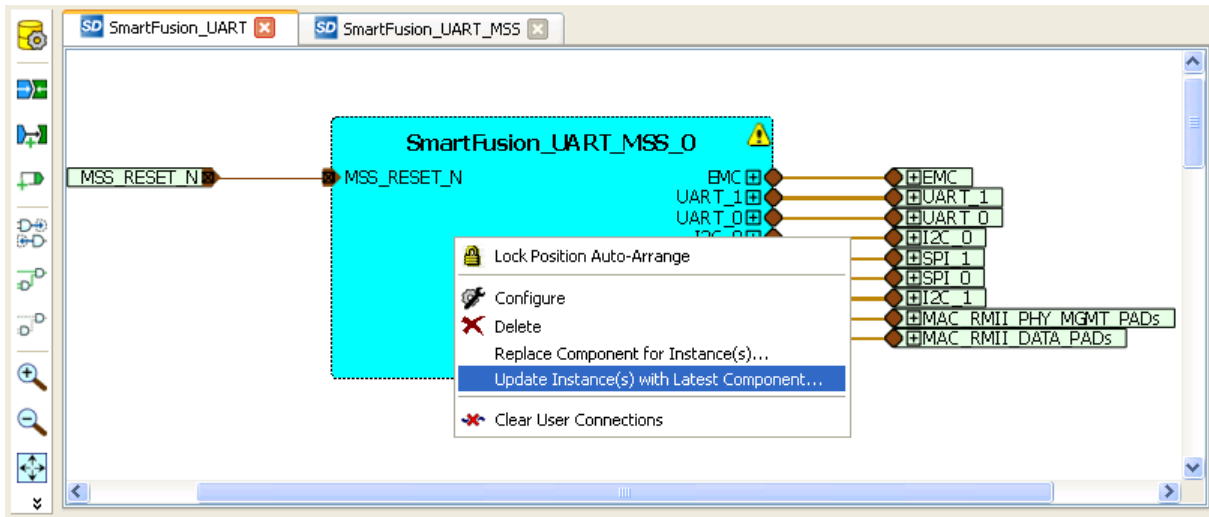

Figure 9 · Updating the MSS
1. Right-click the **SmartFusion_UART_MSS_0** component on the **SmartFusion_UART_MSS** tab and select **Update Instance(s) with Latest Component...**, as shown in Figure 9 . .